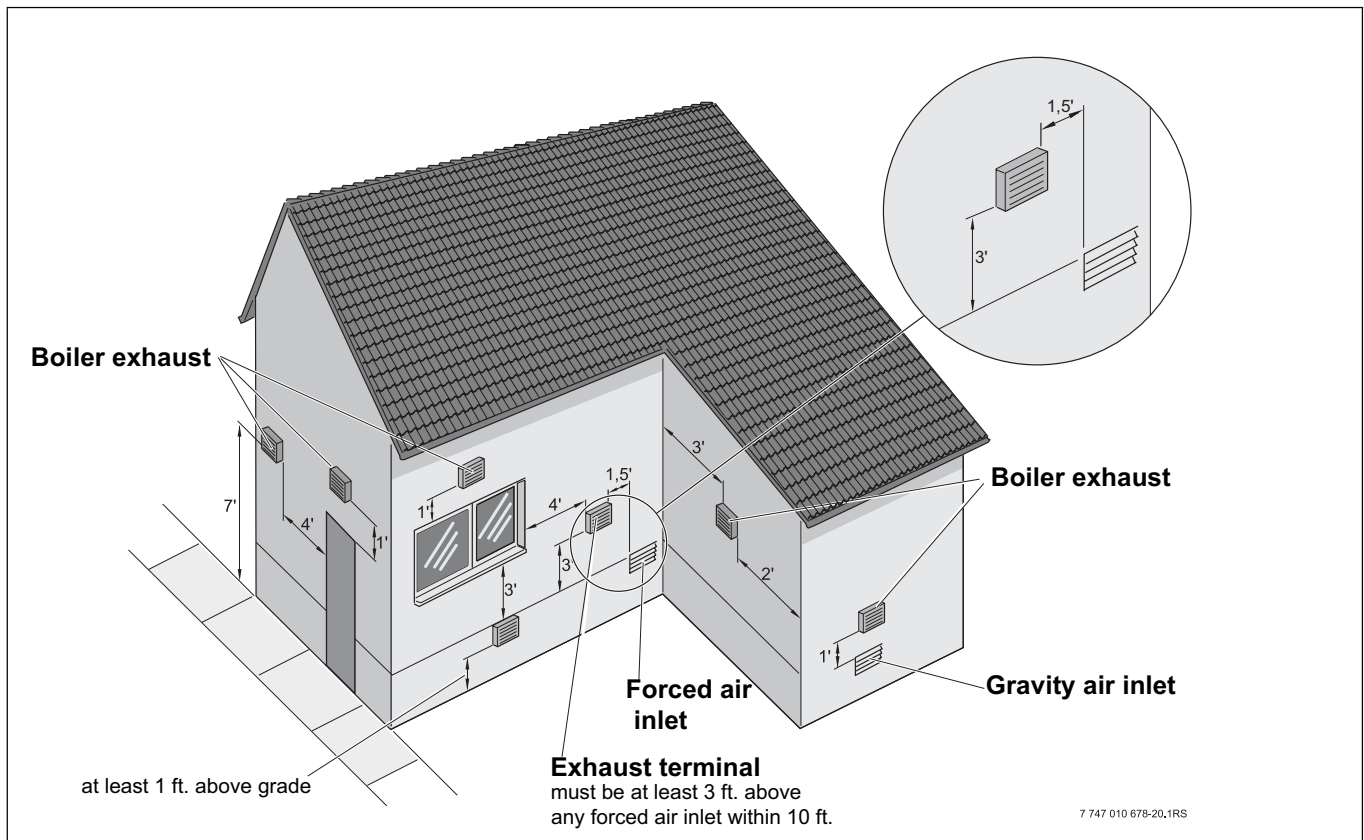

Fig. 16 Minimum clearance for termination
**The location of the wall termination is one of the most important aspects of a direct-vent installation. In addition to the minimum clearances of terminations shown in Fig. 16, observe the following rules:**